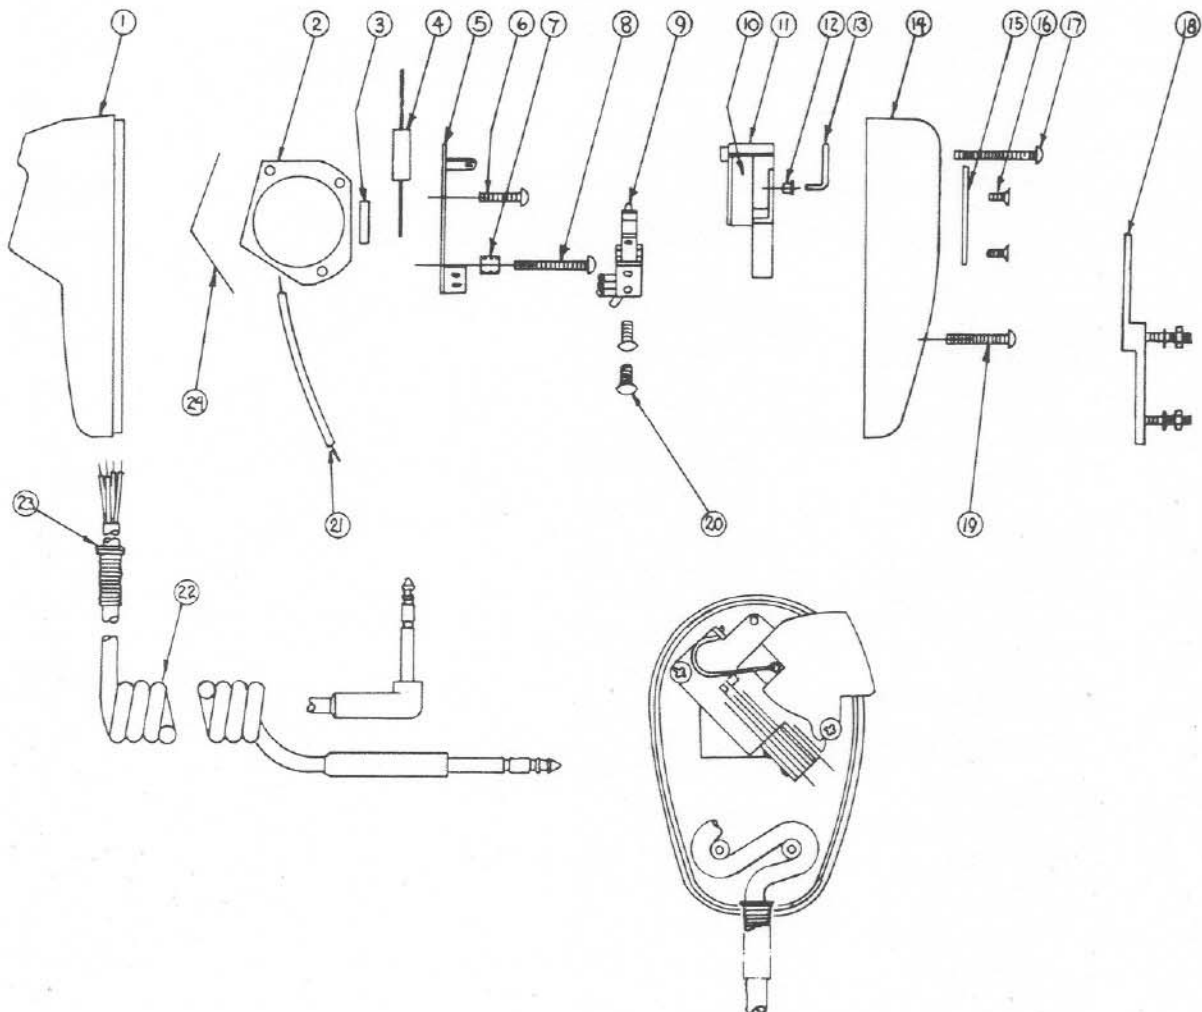

FIGURE 1 — Assembly Drawing
2. **Disassembly.** (See Figure 1)
- b. Do not disassemble the head and capacitor sub-assembly (2) to (6) unless capacitor or head must be replaced. If this is necessary proceed as indicated in steps c. and d.
- c. Remove head by first removing screws (Items 6 & 8) and switch bracket (Item 5). See Figure 1.
- e. Do not unsolder leads to switch unless it is necessary to replace switch assembly or cable (10).